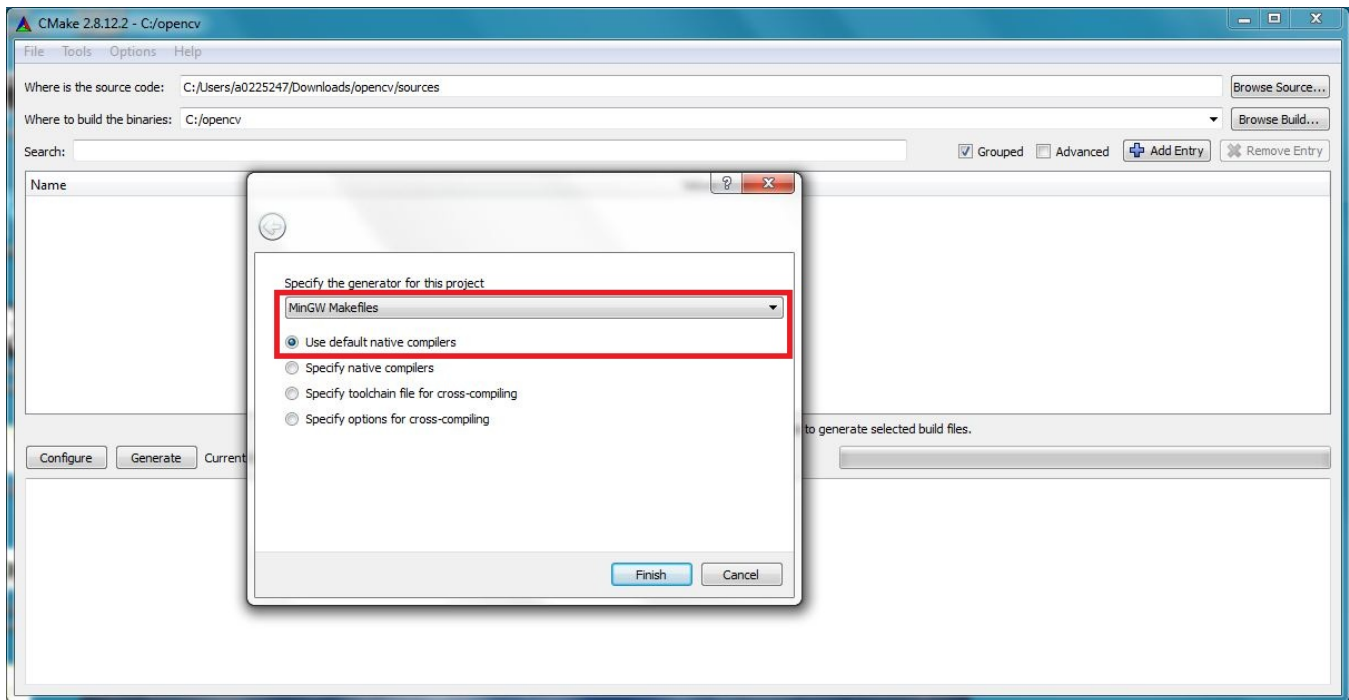

Figure 4-25. Cmake Compiler Configuration
15. A window will appear prompting the user to select the compilers to make the OpenCV libraries for. Select MinGW makefiles from the drop down list, and select use default native compilers radio button. The correct selections are highlighted in Figure 4-25. Click the **Finish** button.